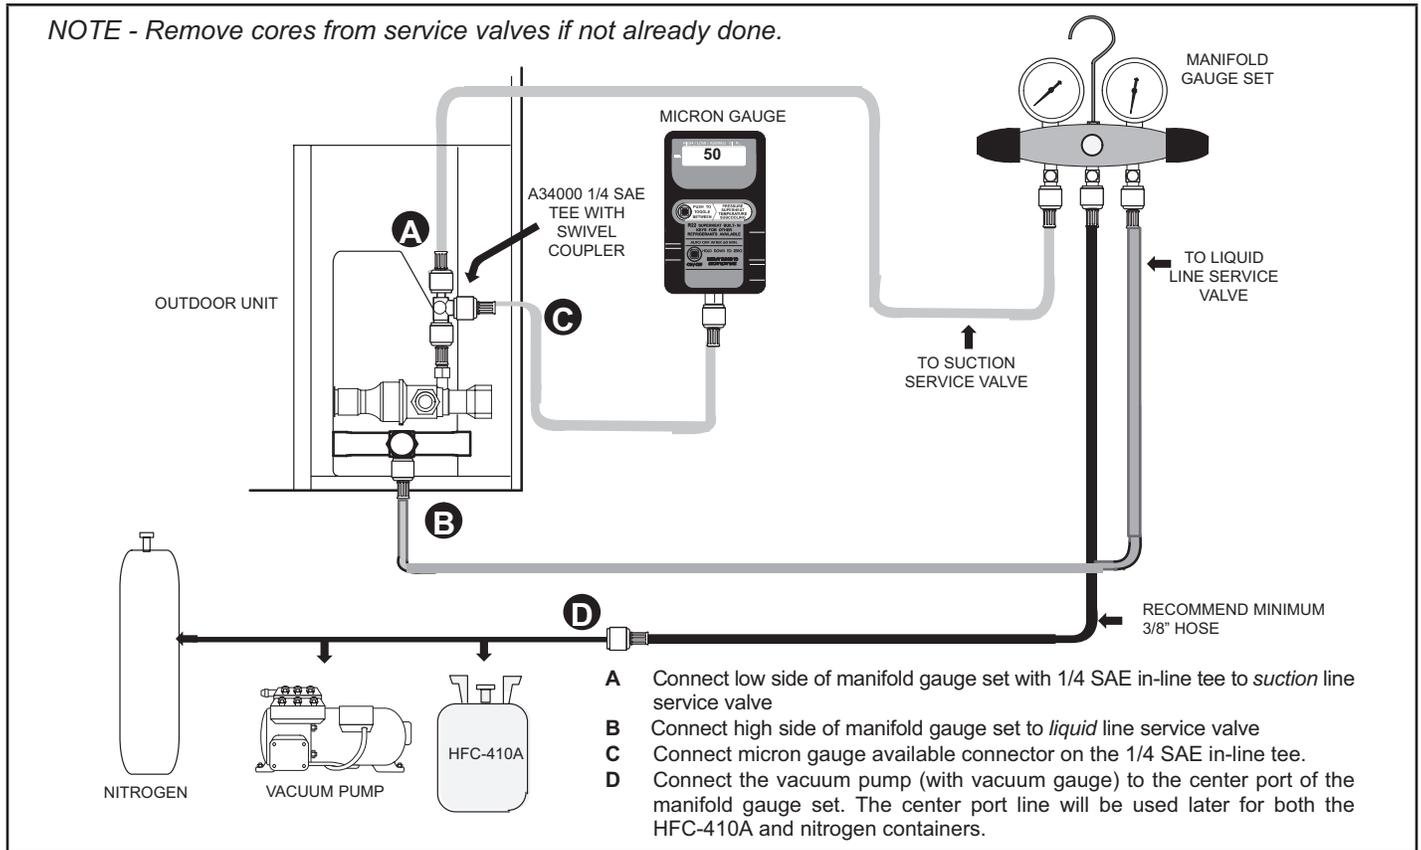

FIGURE 14
- 1 - Connect an HFC-410A manifold gauge set as illustrated in figure 14.